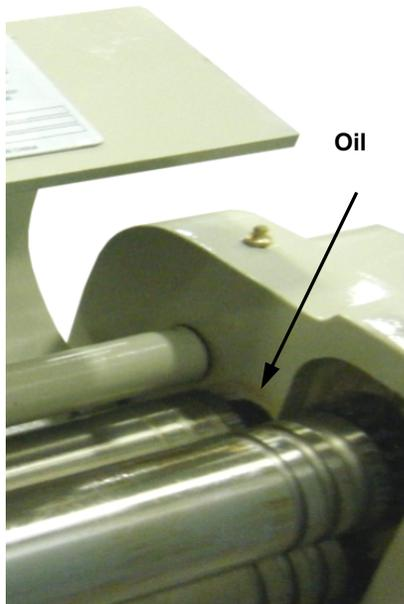

Figure 17-2
6. Lower the idler roll by turning the (2) idler adjustment bolts counterclockwise (**ccw**). This will give you access to apply oil to the bushings. (fig. 17-2)